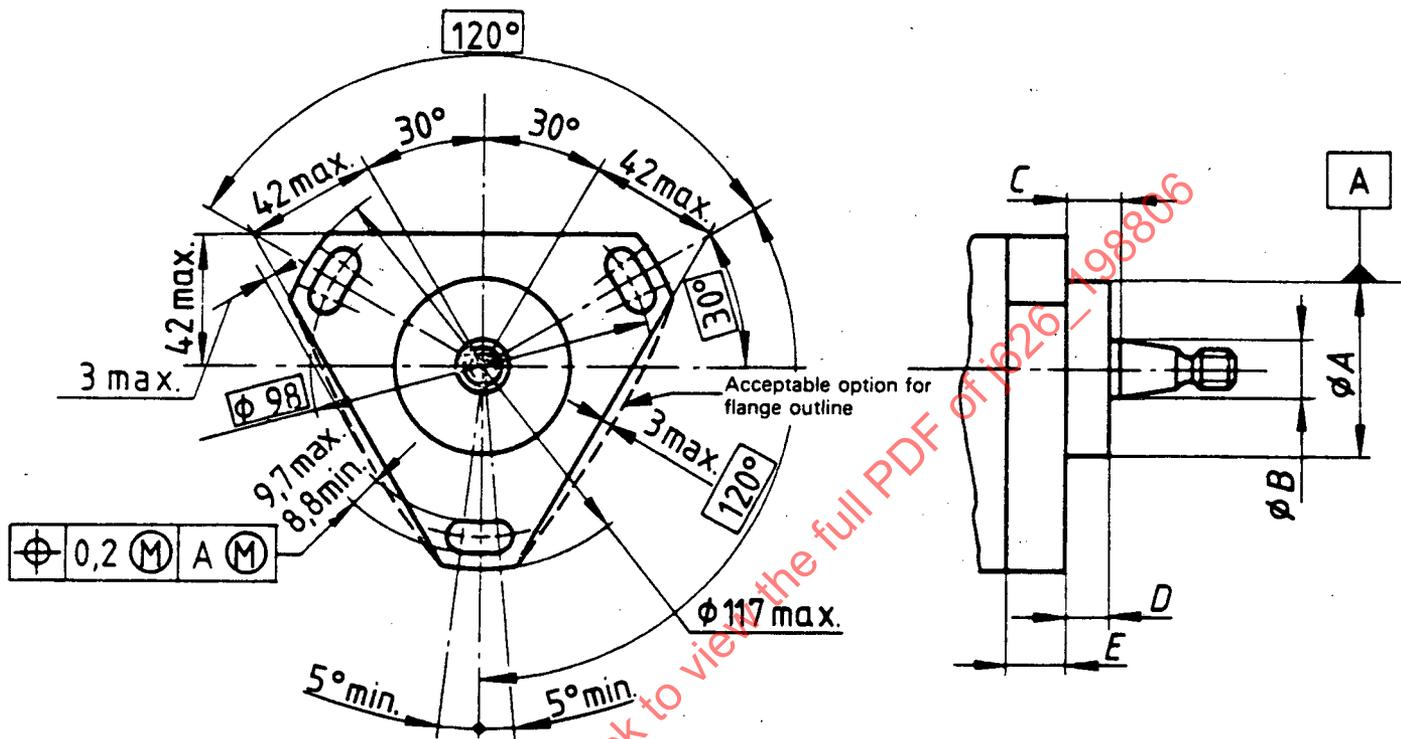

FIGURE 2 - Fuel Injection Pumps - Type 2 End-Mounting Flange
3.2.2 Type 2 Flange: See Fig. 2 and Table 2: